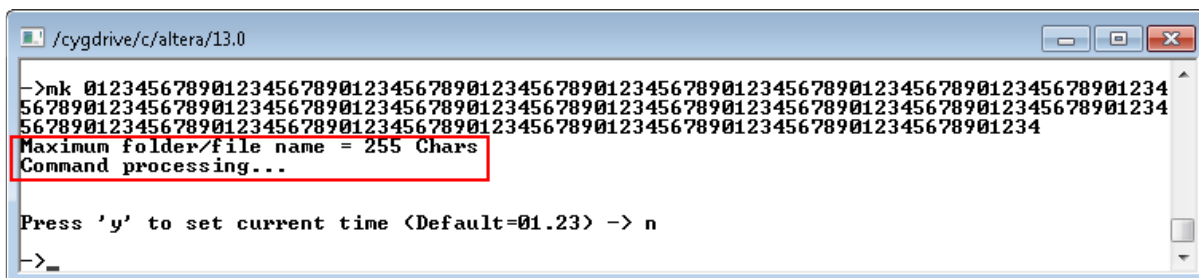

Figure 3-13 Maximum character received
- (3) Auto-running when directory name input is equal to 255 Character (maximum length), as shown in Figure 3-13.